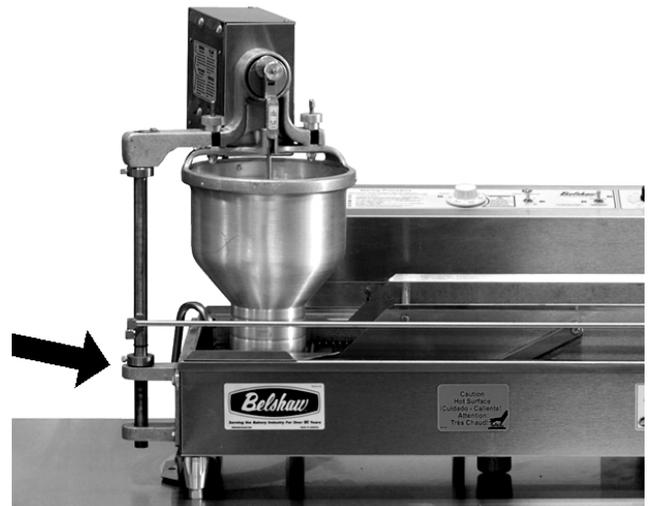

Figure 2-2. Lubricating the swing column.
1. Apply a few drops of food grade lubricating oil to the swing column where it contacts the swing column bracket. See arrow on Figure 2-2.